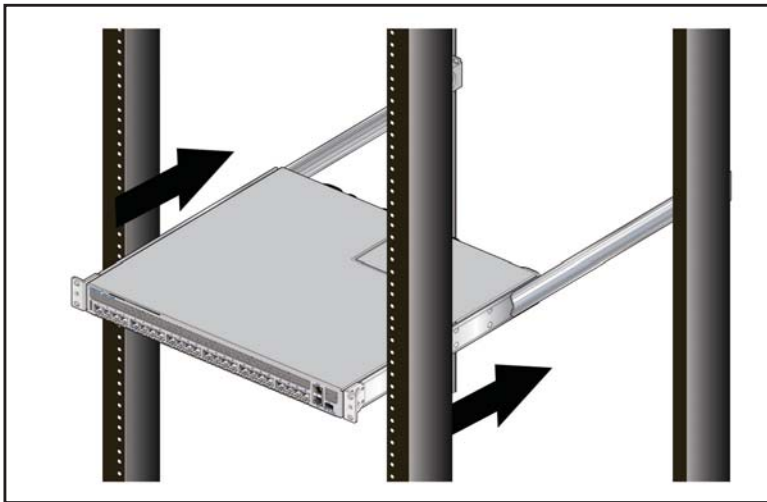

Figure 3-12: Inserting the Switch onto the Rails
Step 1 Lift the switch into the rack and insert the mounting brackets onto the rails (Figure 3-12).